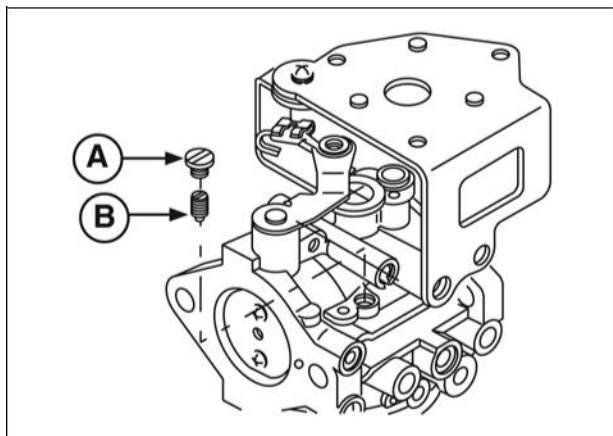

Figure 35
10. Remove idle jet plug (**A**, Figure 35) and idle jet (**B**).